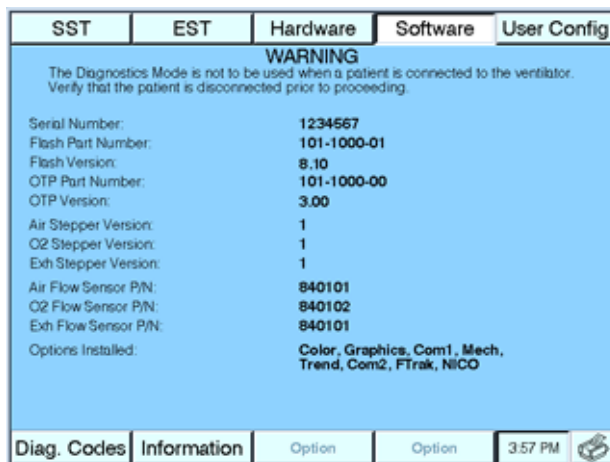

Figure 8-2: Diagnostic Mode - Software Screen
- c. Touch **Software** on the diagnostic screen and record the ventilator configuration information (Figure 8-2) on the Performance Verification Data Form (page 8-50).